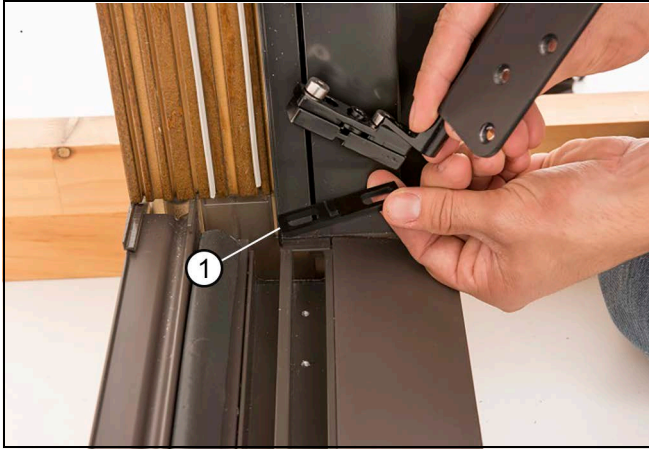
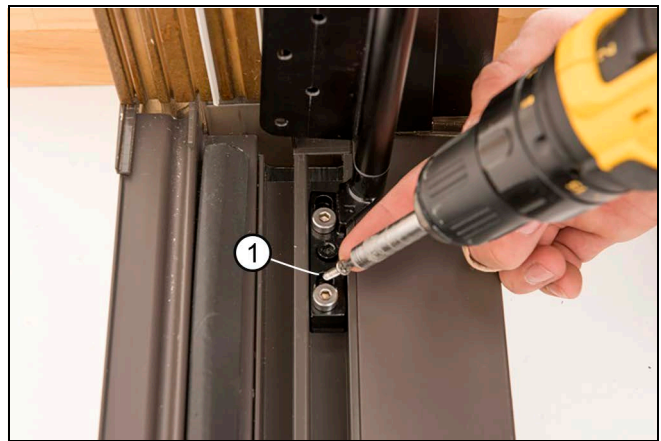

Figure 48
Figure 49
6. Install the bottom portion of hinges 1 and 2 in the correct end of the sill ensuring the shim is installed below it. See Figure 48 and Figure 49.